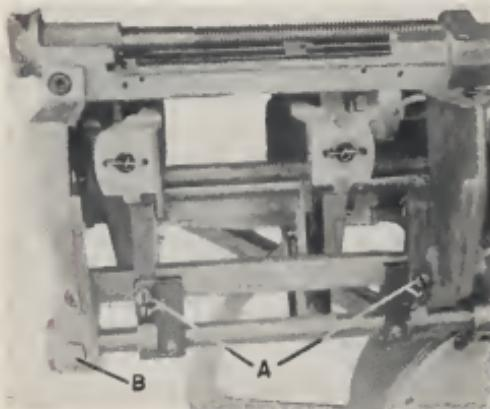
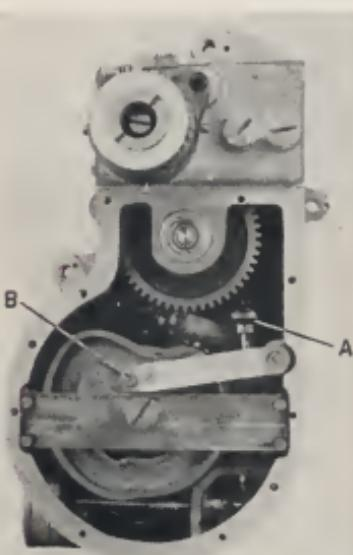
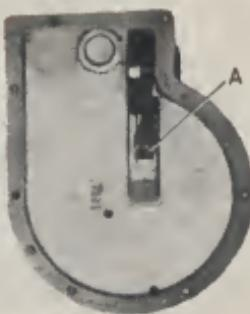

Fig. 16—Saw clamp arm adjustment.
Fig. 18—Main housing. Clutch adjustment.
Fig. 19—Main housing cover.
If clutch still tends to slip with all parts operating freely, it may be adjusted as follows: Remove cloth guard from attachment around right-hand side of Corrector. Remove shield over saw clamps. Take out lock-screw (B) Fig. 16, and push saw feed arm bushing out of frame, allowing shaft to clear housing cover. Remove 8 cover screws, allowing oil to drain in pan. Remove housing cover. Insert screwdriver bit between lockwasher and nut (A) Fig. 18, and turn adjusting nut in $\frac{1}{16}$ turn to tighten, allowing lock-washer finger to drop into notch in cut. Replace cover, taking
care that flat milled around hole in saw feed cross slide (A) Fig. 19, is exposed in the position shown. The pin in cam arm (B) Fig. 18 must be inserted in this hole when replacing cover. Tighten screws, start motor and allow mechanism to reach neutral, reassemble saw feed arm assembly, saw clamp guard and cloth shield. Add oil to proper point in gauge glass.